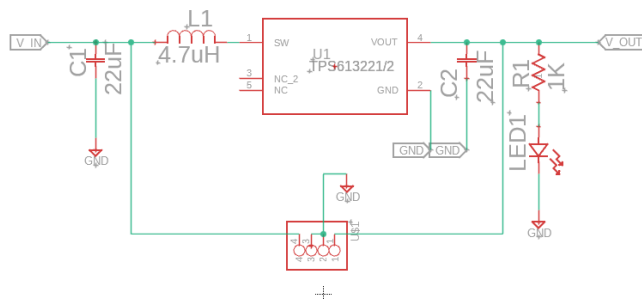

Figure 17: Ground, Vin, and Vout labels and ground symbol added to the final schematic
3.16: Next, we are going to use the label tool to add a ground label to the unconnected parts that need to be connected to ground and to label Vin and Vout. Select the label tool and then click on the wire you wish to assign the label to. Use the name tool to rename this label to “GND”, Vin or Vout as appropriate. Add the number of labels as required. You will be prompted to merge the labels with a common node of GND. Answer yes, when prompted to change the segment’s name. If desired, you can rotate these labels. Another approach to creating grounds is to use the add part tool and select the ground part (search for GND). Figure 17 shows both labels and the ground symbol used to indicate a ground connection (both methods are connected with the same net).